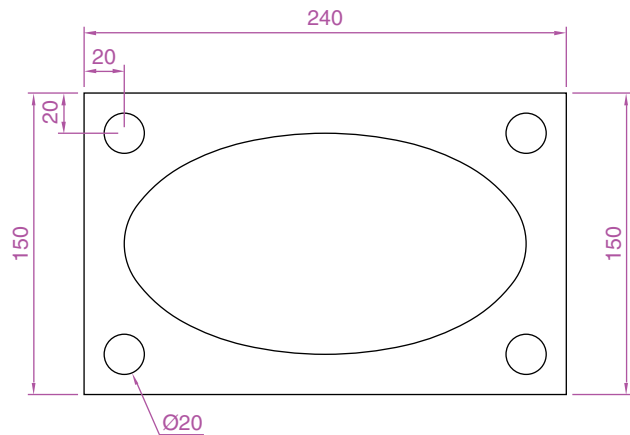

Fig. 3.35 Exercise 4
4. With the **Line**, **Circle** and **Ellipse** tools, construct Fig. 3.35.